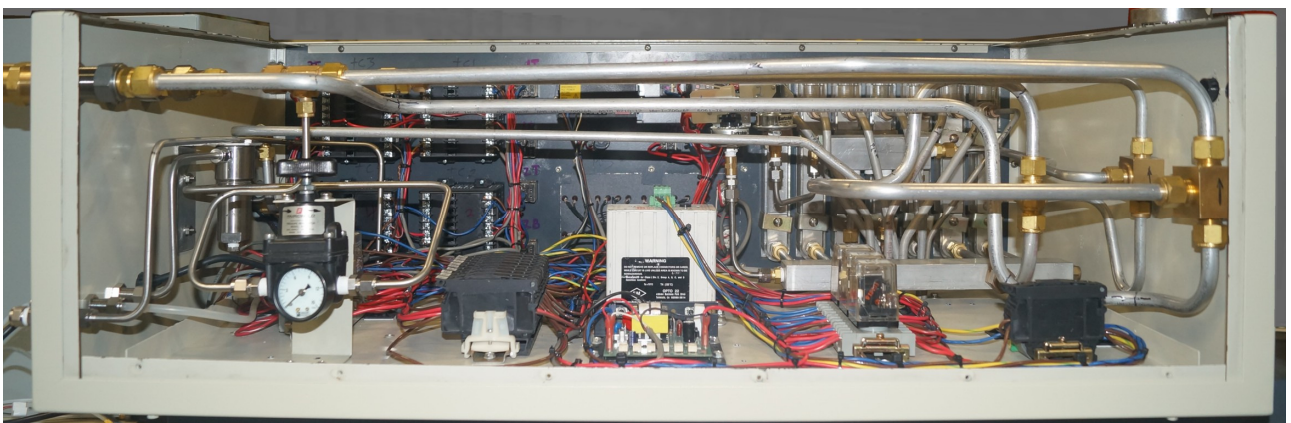

Figure 4-10 Control Enclosure – Rear View
**Furnace Control Console** – Main human interface for controlling power to the furnace. On top of furnace near entrance (Figure 4-10 and Figure 4-11).
**Motor control center.** Controls transport motor system. Located in Furnace Control Enclosure (Figure 4-10 and Figure 4-11).